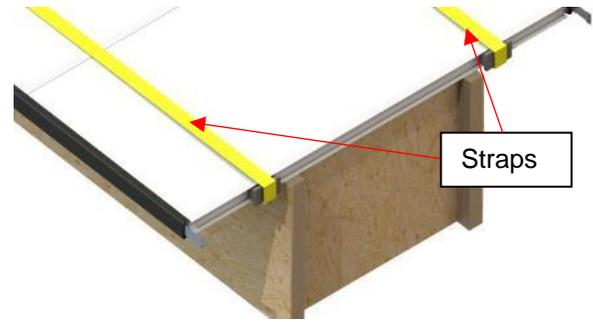
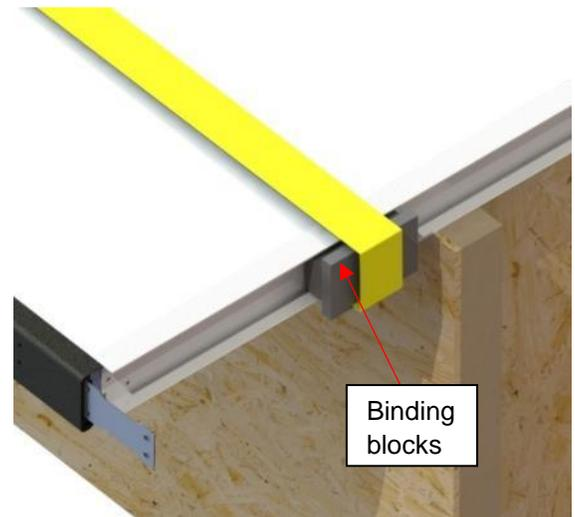

Figure 60
Figure 61
15) Use the binding blocks provided and two 50' (15 m) ratchet straps to help you align the side holes on the other end of the assembly (Figure 60 and Figure 61).
- ◆ Ensure the binding blocks are correctly positioned when strapping. This will prevent the straps from bending the I-beam (Figure 61).